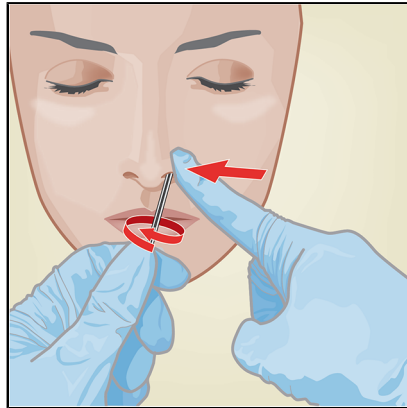

Figure 2. Anterior Nasal Swab Collection for First Nostril
1. Insert a nasal swab 1 to 1.5 cm into a nostril. Rotate the swab against the inside of the nostril for 3 seconds while applying pressure with a finger to the outside of the nostril (see Figure 2).